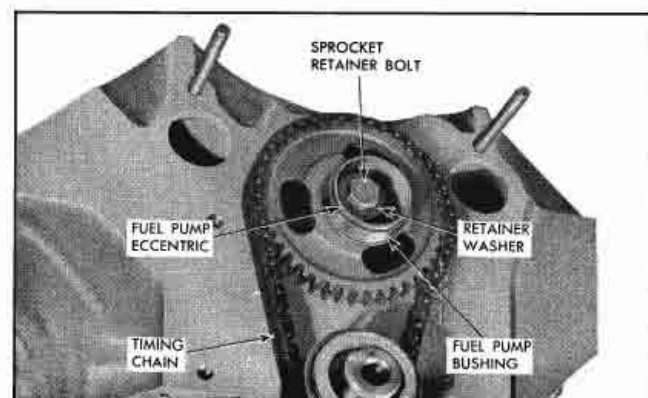

Fig. 6-43 Front of Engine with Timing Chain Cover Removed
16. If new fuel pump eccentric and bushing is to be installed, remove camshaft sprocket retainer bolt and retainer washer and remove eccentric (Fig. 6-43). Install new eccentric, indexing tang on eccentric with hole in camshaft sprocket. Install bushing over eccentric with flange against sprocket. Insert retainer screw with retainer washer and tighten securely.